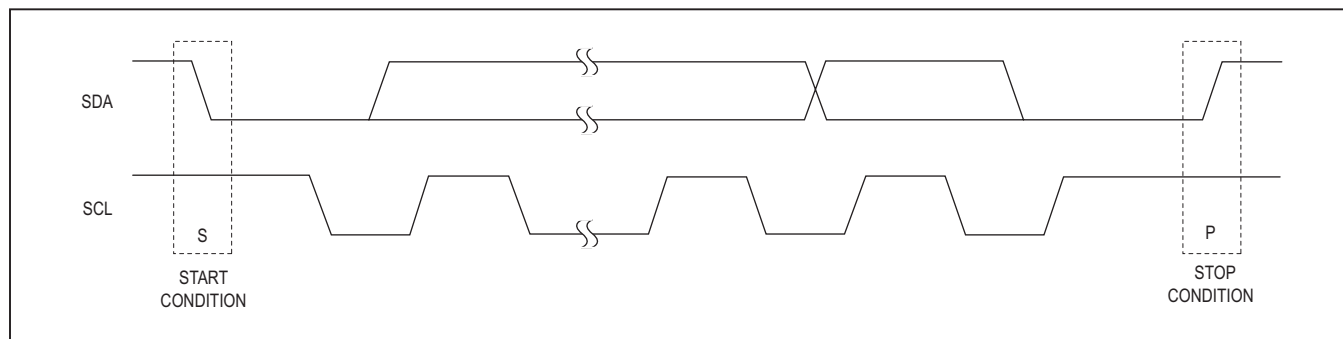

Figure 28. START and STOP Conditions
Both SCL and SDA remain high when the interface is not busy. A master signals the beginning of a transmission with a START (S) condition by transitioning SDA from high to low while SCL is high (see Figure 28). When the master has finished communicating with the slave, it issues a STOP (P) condition by transitioning SDA from low to high while SCL is high. The bus is then free for another transmission.